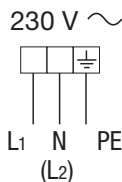

Fig. 1.2
- Connect the phase and earth cables to the terminal block "B" according to the diagram in figure 1.2.